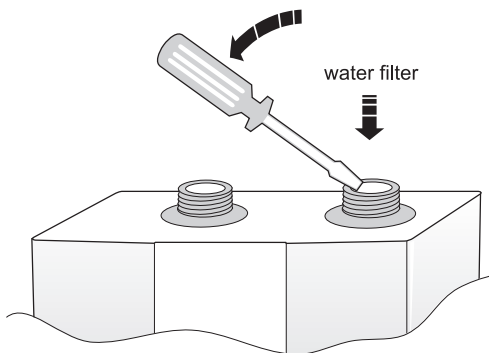

Fig. 8
3. Take out filter (using small screw driver – see fig. 8).